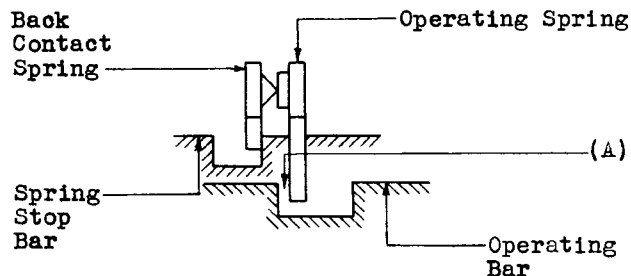

Fig. 17
2.12 Clearance Between Operating Spring and Operating Bar or Stud on Break and Transfer Spring Combinations - Figs. 17 (A) and 18 (A) - With the operating bar in the normal position, this clearance shall be